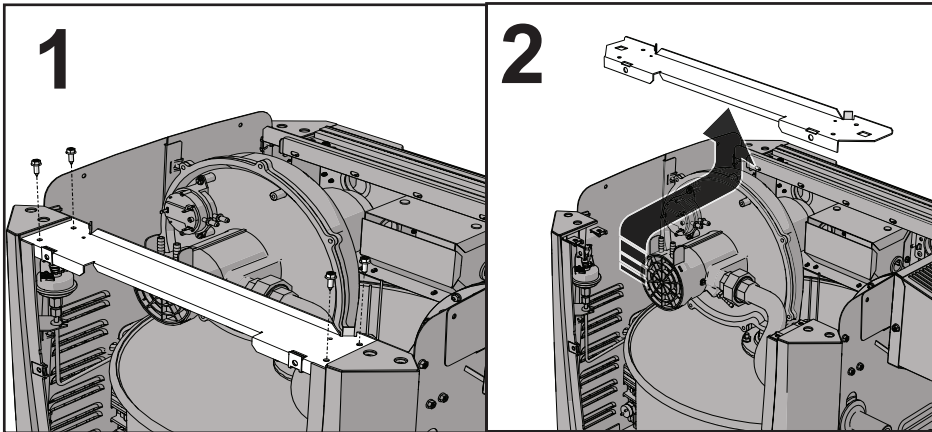

Figure 7. Remove Rear Brace Bar
7. Unscrew four (4) hex head screws and remove the rear brace bar for easier access to the gas train (Figure 7).